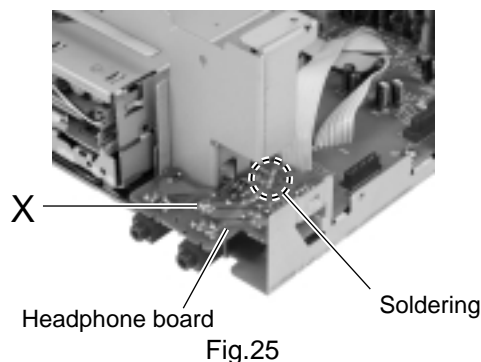

Fig.25
■ Removing the headphone board (See Fig.25)